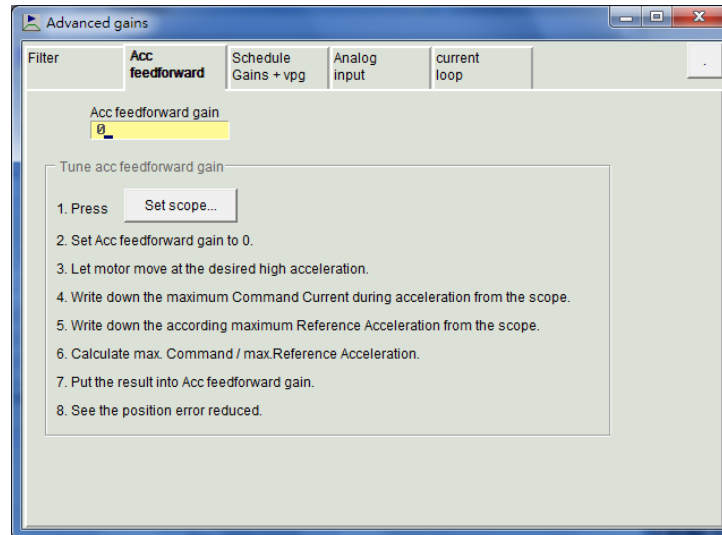

Figure 5-27 Acc feedforward
Step2. Set “Acc feedforward gain” to zero as shown Figure 5-27.